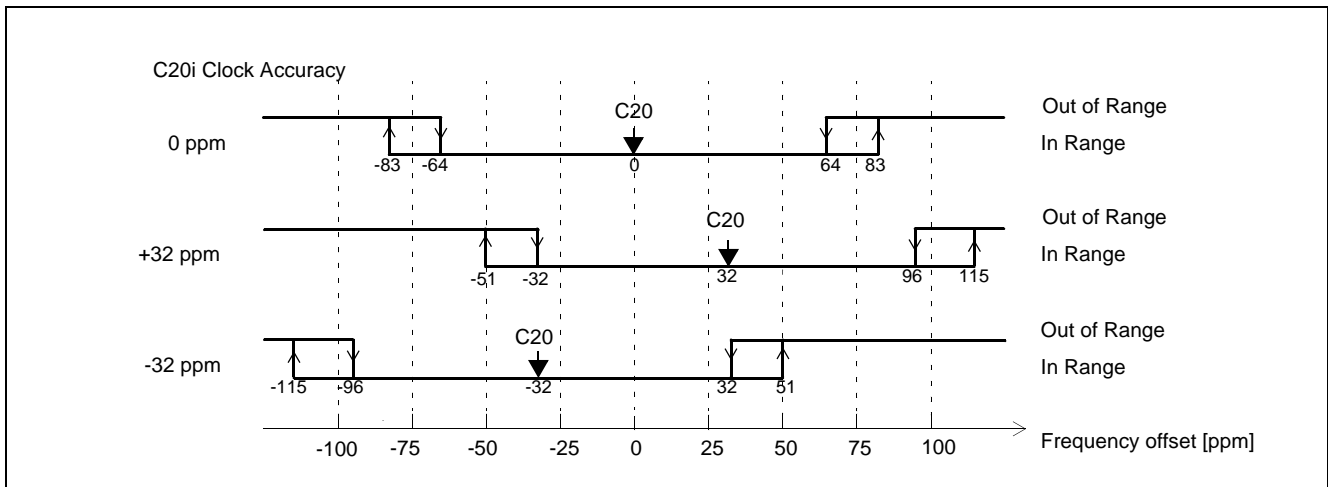
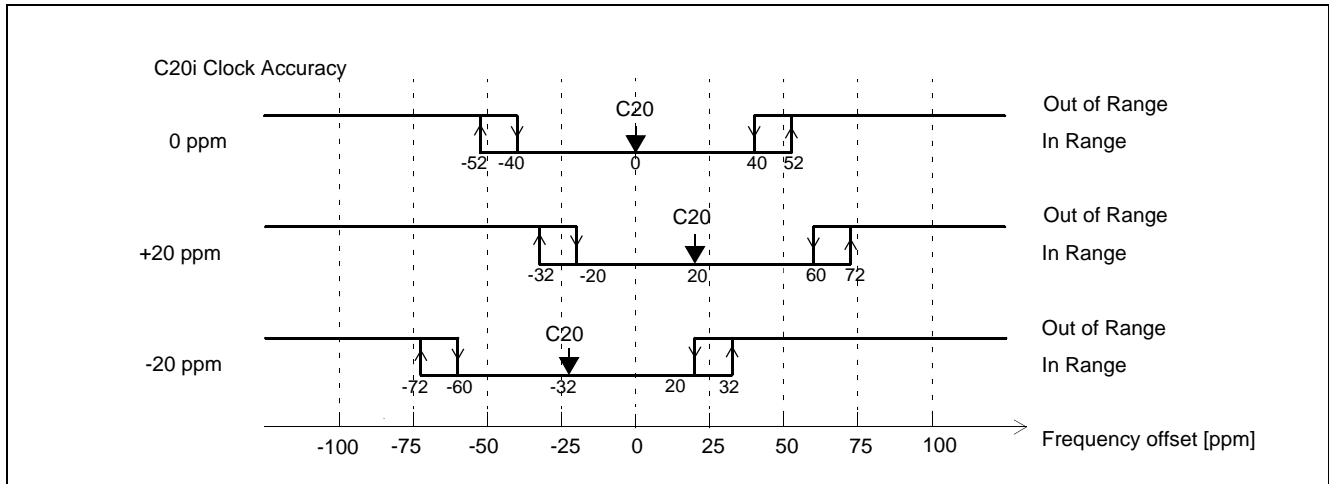

Figure 5 - Out-of-Range Thresholds for OOR\_SEL=1
Figure 6 - Out-of-Range Thresholds for OOR\_SEL=0
- **Precise Frequency Monitor (PFM):** This circuit determines whether the frequency of the reference clock is within the applicable accuracy range defined by the OOR\_SEL pin, see Figure 5, Figure 6 and Table 2. It will take the precise frequency monitor up to 10 s to qualify or disqualify the input reference.